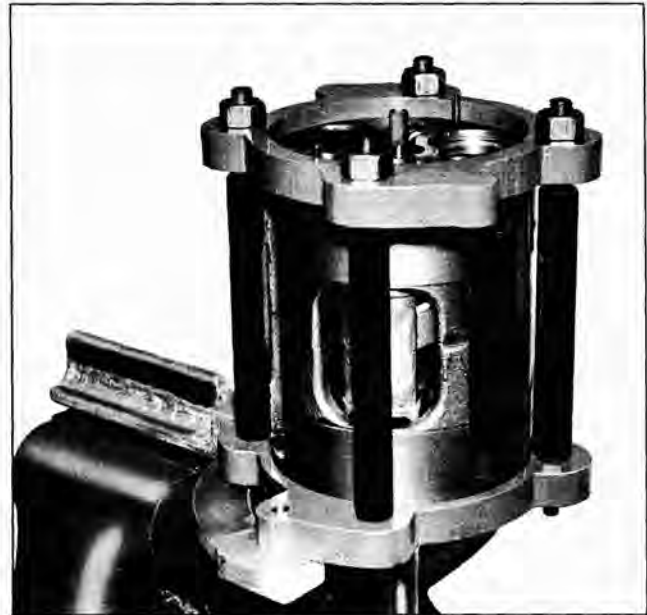

Fig. 5-83 Internal Mechanism in Compressing Fixture
13. Place cylinder assembly in J-9397 compressing fixture with front of compressor shaft pointing down, positioning discharge tube opening between fixture bolts. This will permit access for the feeler gauge. Assemble fixture head ring and nuts to the cage, tighten nuts evenly to 25 lb. ft. torque (Fig. 5-83).